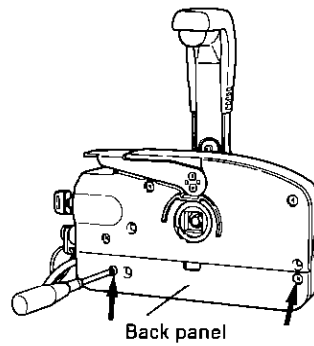

Fig. 8
- ⑥ Put the Back Panel on the Remote Control Box. (Fig. 8)
(3) Installation of the Remote Control Box on your boat